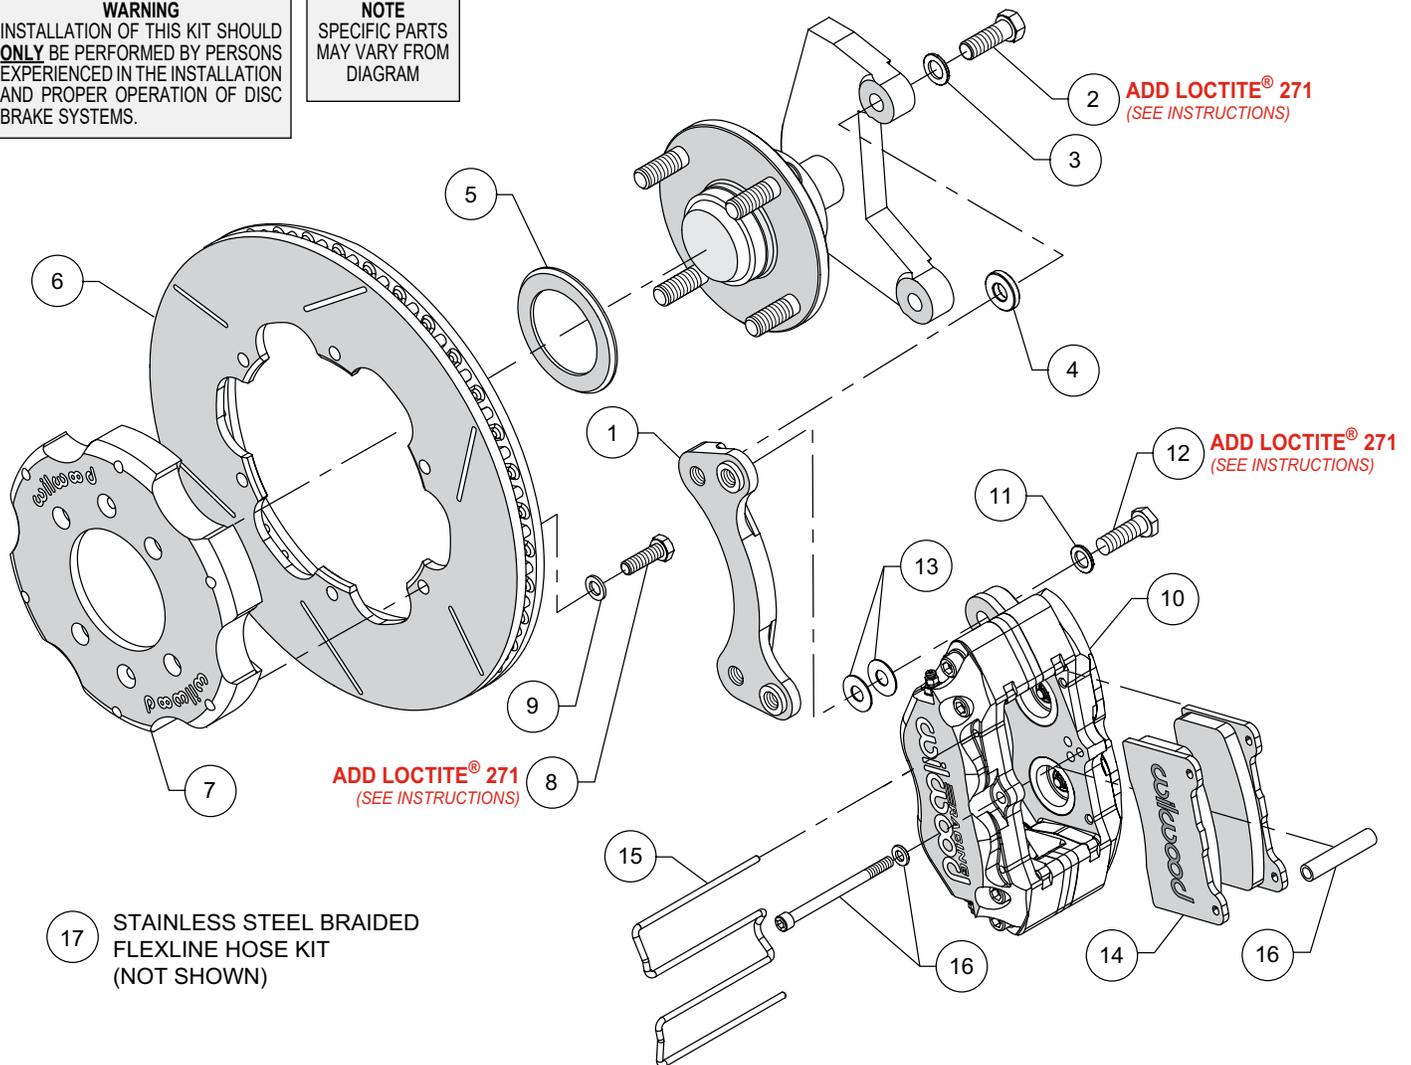
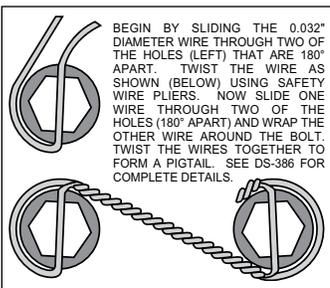
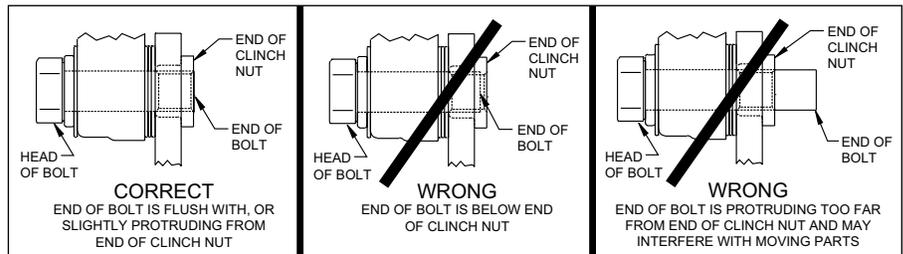

Figure 1. Typical Installation Configuration
Figure 3. Safety Wire Diagram
Figure 4. Clinch Nut Engagement Diagram
NOTE: Numbers in parenthesis refer to the parts list and Figure 1 on the preceding pages.
CAUTION: All mounting bolts must fully engage clinch nuts. Be sure to check that all bolts are either flush or protruding through flanged side of clinch nut after shimming, Figure 4, page 5.
- Orient the caliper mount bracket (1) as shown in Figure 1 and Photo 1, and install using bolts (2) and washers (3). Place a spacer (4) on each bolt between the bracket and caliper mounting bosses, Figure 1. Ensure that the flanged heads of the clinch nuts in the bracket are facing outboard, Photo 1. Temporarily tighten the mounting bolts. **NOTE:** The bracket must fit squarely against the mount bosses on the upright. Inspect for interference from casting irregularities, machining ridges, burrs, etc. Remove bolts one at a time, apply red *Loctite*® 271 to the threads and torque to 30 ft-lb.
- Orient the rotor (6) and the hat (7) as shown in Figure 1 and Photo 2. Attach rotor to hat using bolts (8) and washers (9). Using an alternating sequence, apply red *Loctite*® 271 to the threads, and torque to 25 ft-lbs. Safety wire bolts using standard 0.032 inch diameter stainless steel safety wire as shown in Figure 3. Please refer to Wilwood's data sheet DS-386 (available at www.wilwood.com/Pdf/DataSheets/ds386.pdf) for complete safety wire installation instructions.
- Slide the rotor registration adapter (5) onto the axle register on the axle hub with the smaller O.D. facing toward the rotor/hat (6/7), Photo 3. Slide the hat/rotor assembly onto the axle hub. **NOTE:** The hat must fit flush against the axle hub flange or excessive rotor run out may result. Install three lug nuts (finger tight) to keep the hat/rotor assembly in place while continuing with the installation.
- NOTE:** Please reference the caution statement at the beginning of the assembly instructions. Mount the caliper (10) onto the caliper mounting bracket (1) using bolts (12) and washers (11), as shown in Figure 1. Initially place two .035" thick shims (13) on each bolt between the caliper and the bracket, Photo 4. Temporarily tighten the mounting bolts and view the rotor (6) through the top opening of the caliper. The rotor should be centered in the caliper, Photo 5. If not, adjust by adding or subtracting shims between the bracket and the caliper. Always use the same amount of shims on each of the two mounting bolts. **NOTE:** The end of each bolt must be flush with or slightly protruding from the head of the clinch nut, as shown in Figure 4. If necessary place spare shims between washer (11) and caliper mounting ear to achieve the proper clinch nut engagement. Once the caliper alignment and clinch nut engagement are correct, remove the bolts one at a time, apply red *Loctite*® 271 to bolt threads, and torque to 40 ft-lb. For an added measure
of safety, bolt may be safety wired using standard 0.032 inch diameter stainless steel safety wire as shown in Figure 3. Please refer to Wilwood's data sheet DS-386 (available at www.wilwood.com/Pdf/DataSheets/ds386.pdf) for complete safety wire installation instructions.